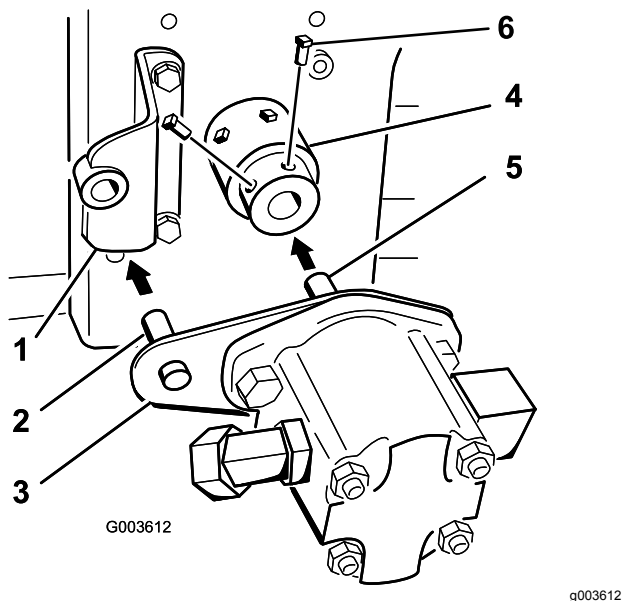

Figure 21
Note: The hydraulic pump shaft will touch the end of the engine PTO shaft (Figure 21).
11. Apply removable thread-locking compound to the 2 setscrews (5/16 x 3/4 inch) and install them into the hub assembly to secure the hydraulic pump shaft (Figure 21).